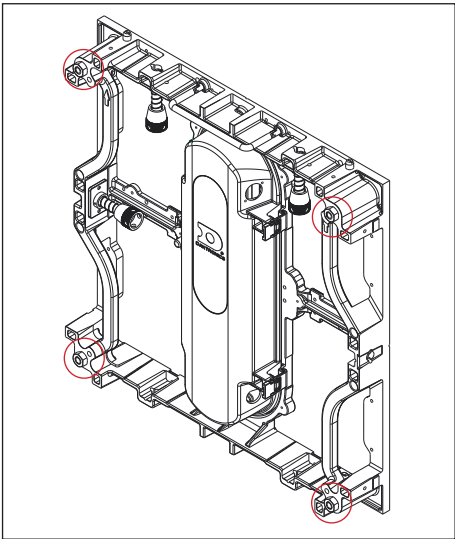

Figure 4: Attach Panel to Tube
1. Insert one self-drilling screw and one M10 jacking bolt in the upper-left and upper-right corner on each panel. Refer to Figure 4.
2. Insert one self-drilling screw and one M10 jacking bolt in the lower-left and lower-right corner on each panel in the bottom row of panels only. Refer to Figure 4.